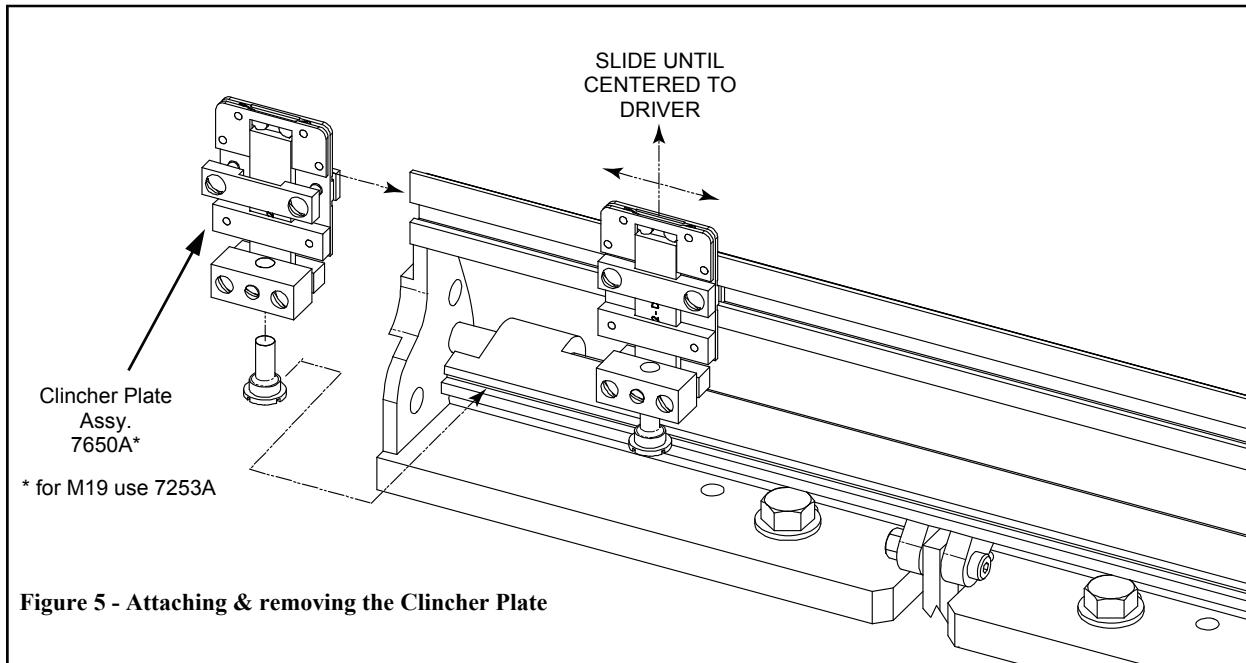

Figure 5 - Attaching & removing the Clincher Plate
- Slide the Clincher Plate Assembly into the clincher mounting rail of the Stitcher as shown in (Figure 5).